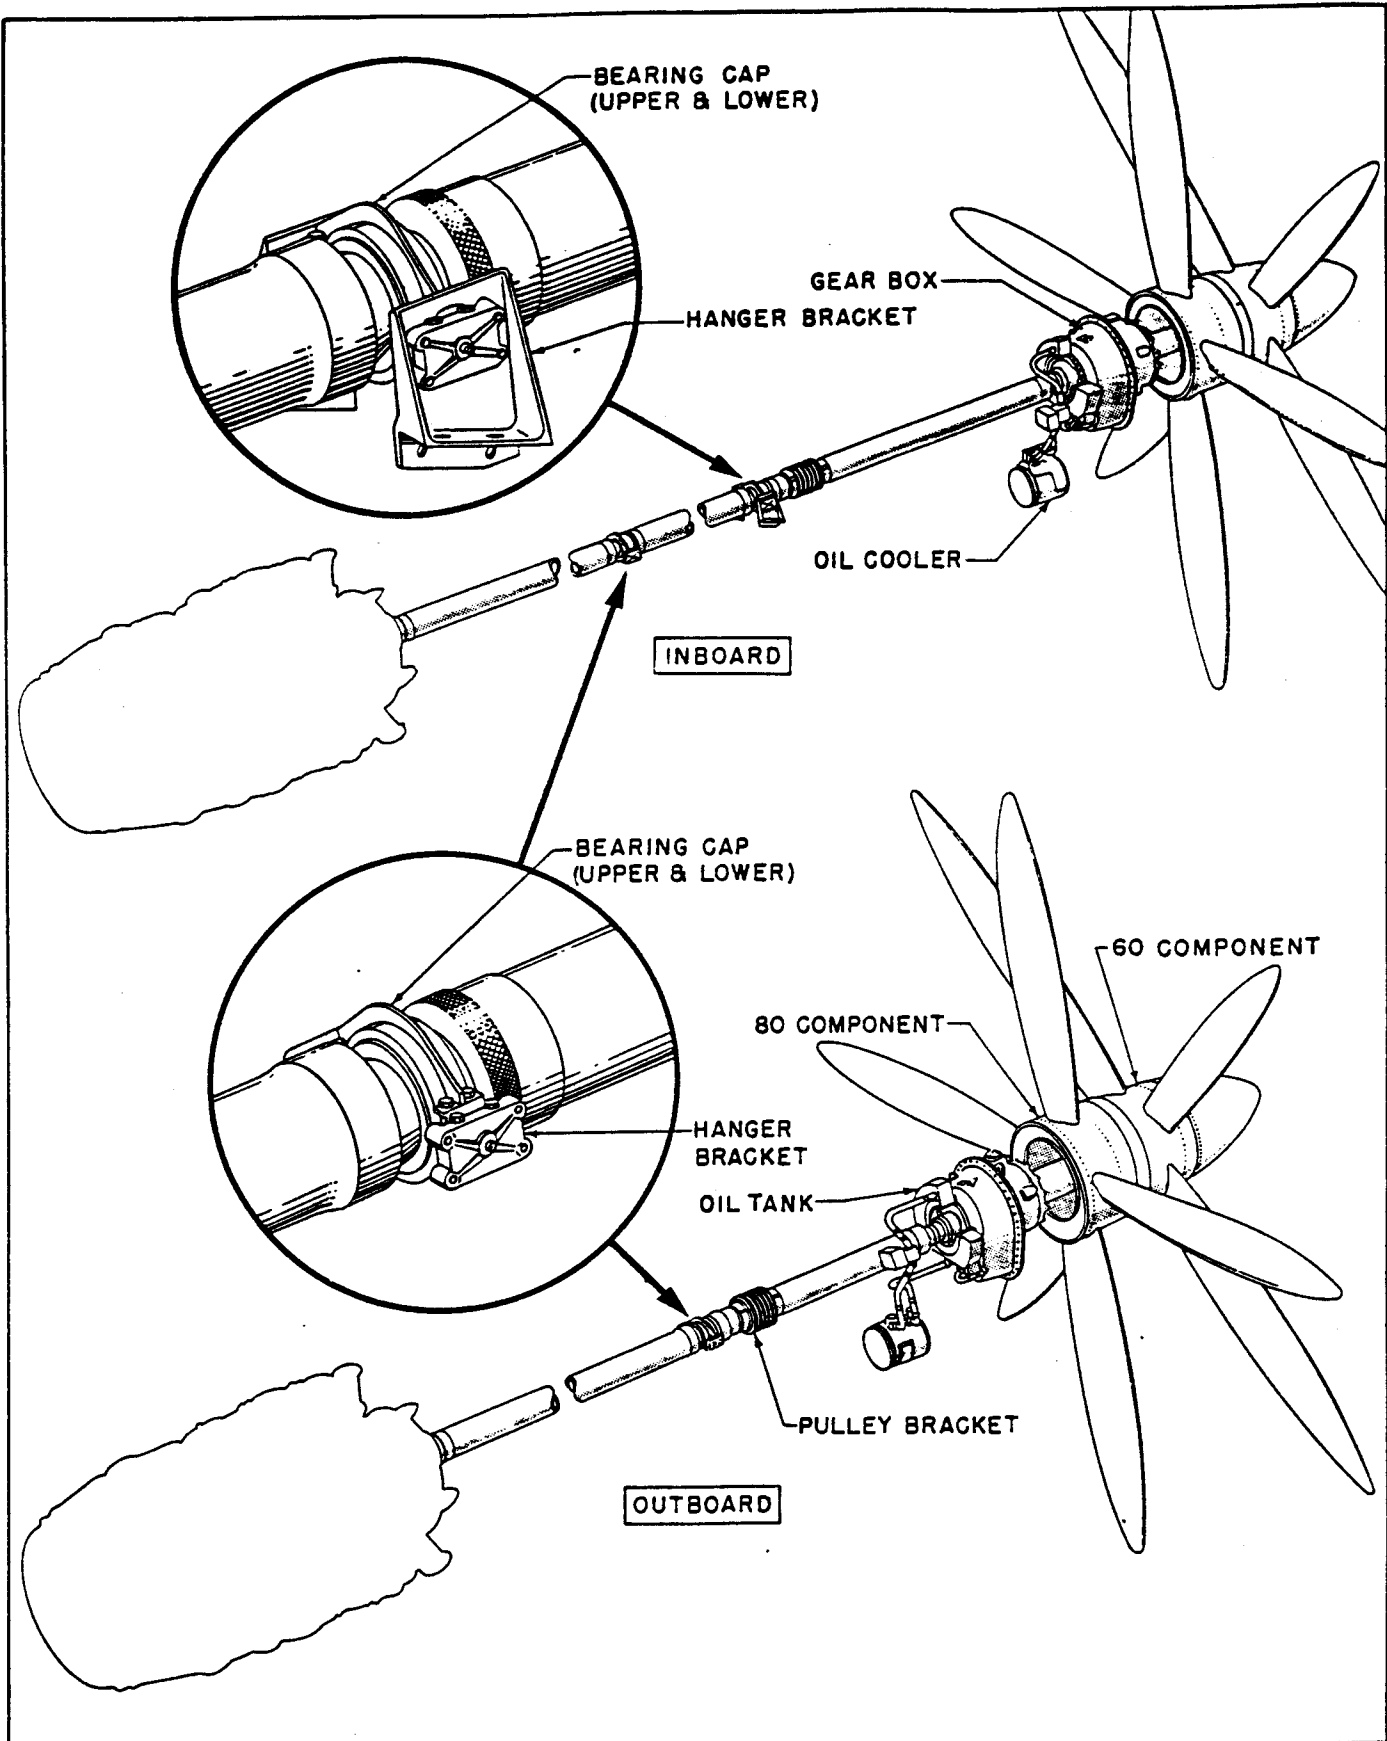

Figure 1. Propeller, Gear Box, and Extension Shaft Assembly
(1) DESCRIPTION. (See figure 1)- Each of the four counter-rotating propeller units consists of two components: the 80 component, which is the aft propeller and has the same rotation direction as the engine, and the 60 component. The pitch changes of the two components are synchronized by an interconnecting bearing and eccentric assembly; one control assembly is used for both components.